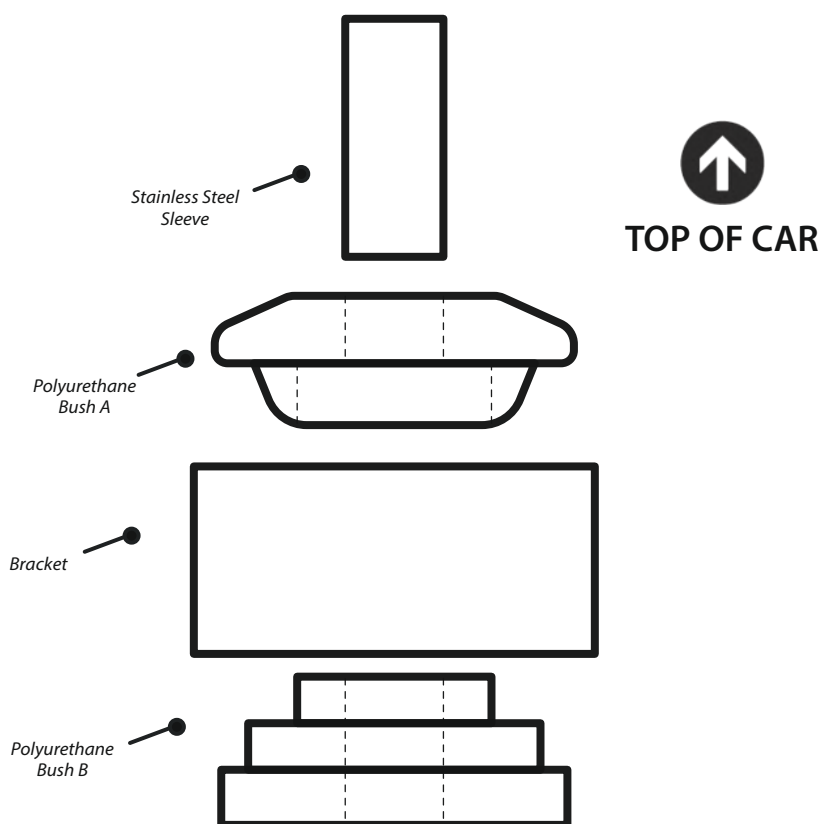

Figure 1
2. Insert Polyurethane Bush A into the top of the bracket, ensuring it sits flush within the bore. Please refer to Figure 1 for the positioning of the bushes.